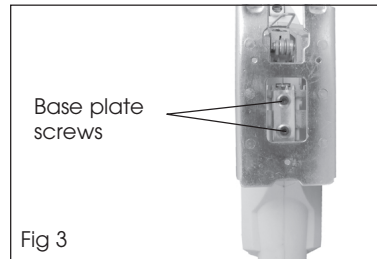

Fig 3
1. Loosen the base plate screws using the hexagonal key provided. See Fig 3